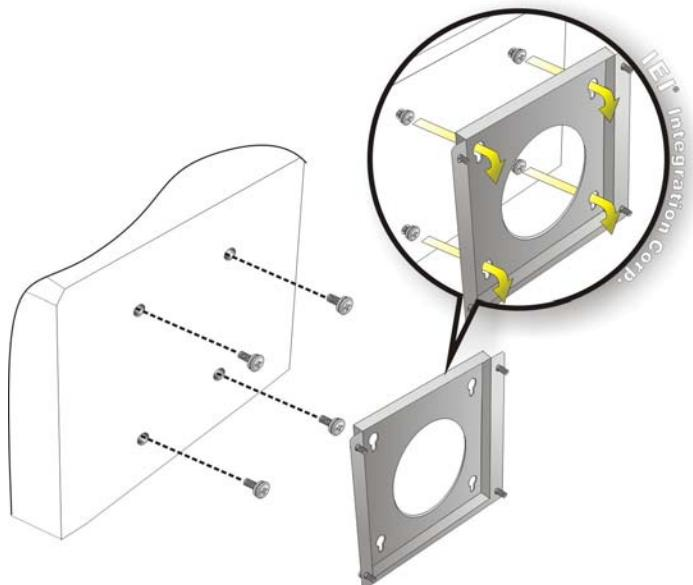

Figure 3-12: Mount the Embedded System
Step 6: Insert the four monitor mounting screws provided in the wall mounting kit into the four screw holes on the bottom panel of the system and tighten until the screw shank is secured against the bottom panel (**Figure 3-12**).
Step 8: Carefully insert the screws through the holes and gently pull the monitor downwards until the TANK-610-BW rests securely in the slotted holes (**Figure 3-12**). Ensure that all four of the mounting screws fit snugly into their respective slotted holes.